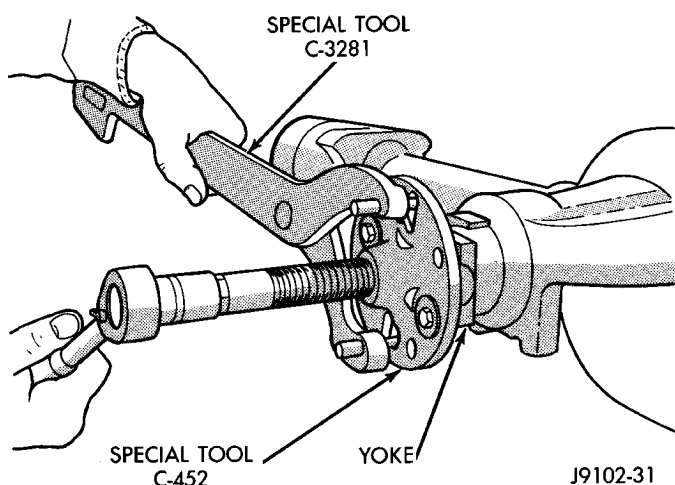

Fig. 16 Pinion Yoke Removal
(7) Measure the amount of torque necessary to rotate the pinion gear with a (in. lbs.) dial-type torque wrench. Record the torque reading for installation reference.
(8) Using a short piece of pipe and Holder 6958 to hold the pinion yoke, or pinion flange, remove the pinion nut and washer.
(9) Use Remover C-452 and Wrench C-3281 to remove the pinion yoke, or flange, (Fig. 16).
(1) Raise and support the vehicle.
(2) Remove wheel and tire assemblies.
(3) Remove brake rotors and calipers. Refer to Group 5, Brakes, for proper procedures.
(4) Mark the propeller shaft and pinion yoke, or pinion flange, for installation reference.
(5) Remove the propeller shaft from the yoke, or pinion flange.
(6) Rotate the pinion gear three or four times.
(8) Remove differential assembly from axle housing.
(9) Using Holder 6958 to hold yoke, or flange, and a short length of 1 in. pipe, remove the pinion nut and washer.
(10) Using Remover C-452 and Wrench C-3281, remove the pinion yoke, or flange, from pinion shaft (Fig. 16).